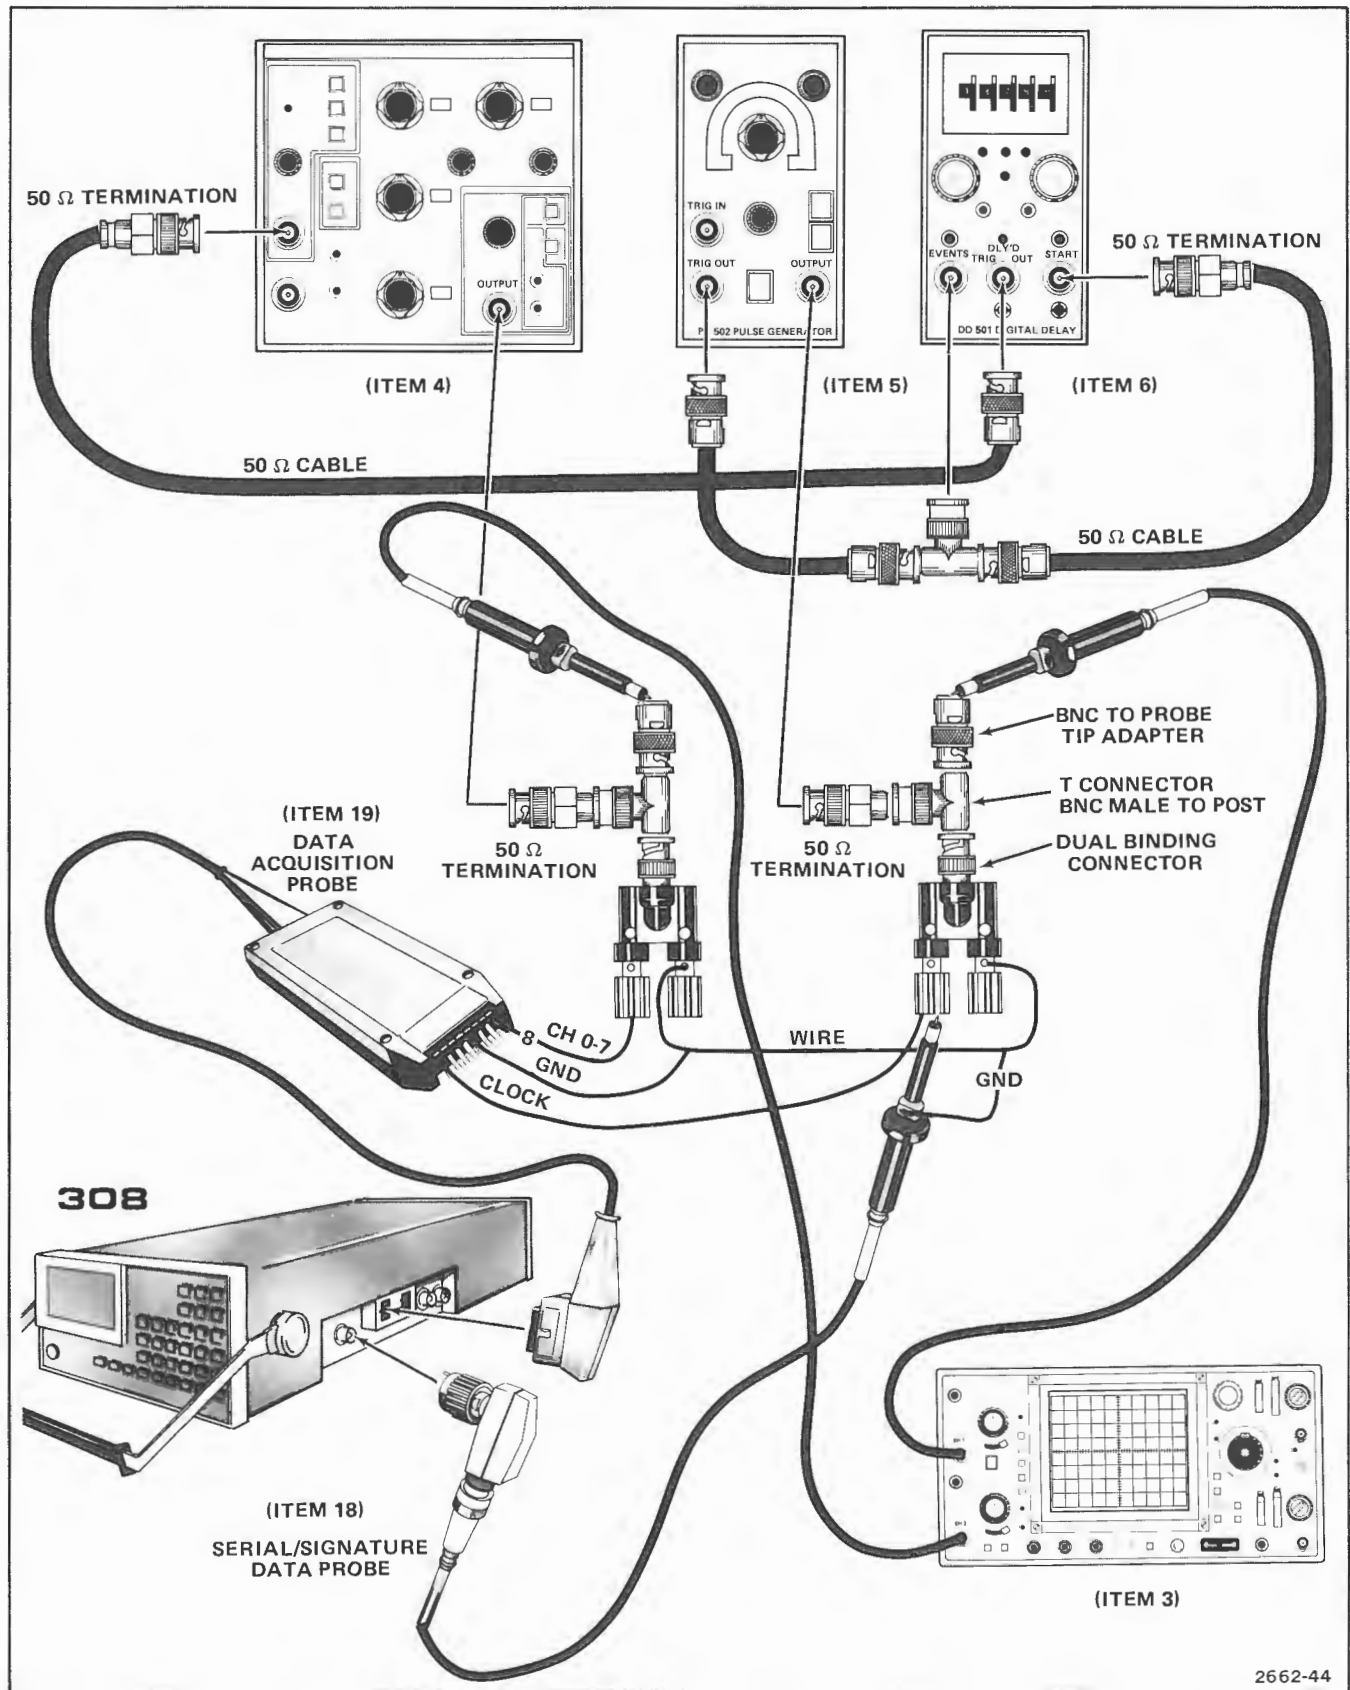

Figure 4-8. Test setup for trigger delay counter.
e. Connect test setup as shown in Figure 4-8, but do not connect the Serial/Signature probe (Item 18).
e. Connect test setup as shown in Figure 4-8.